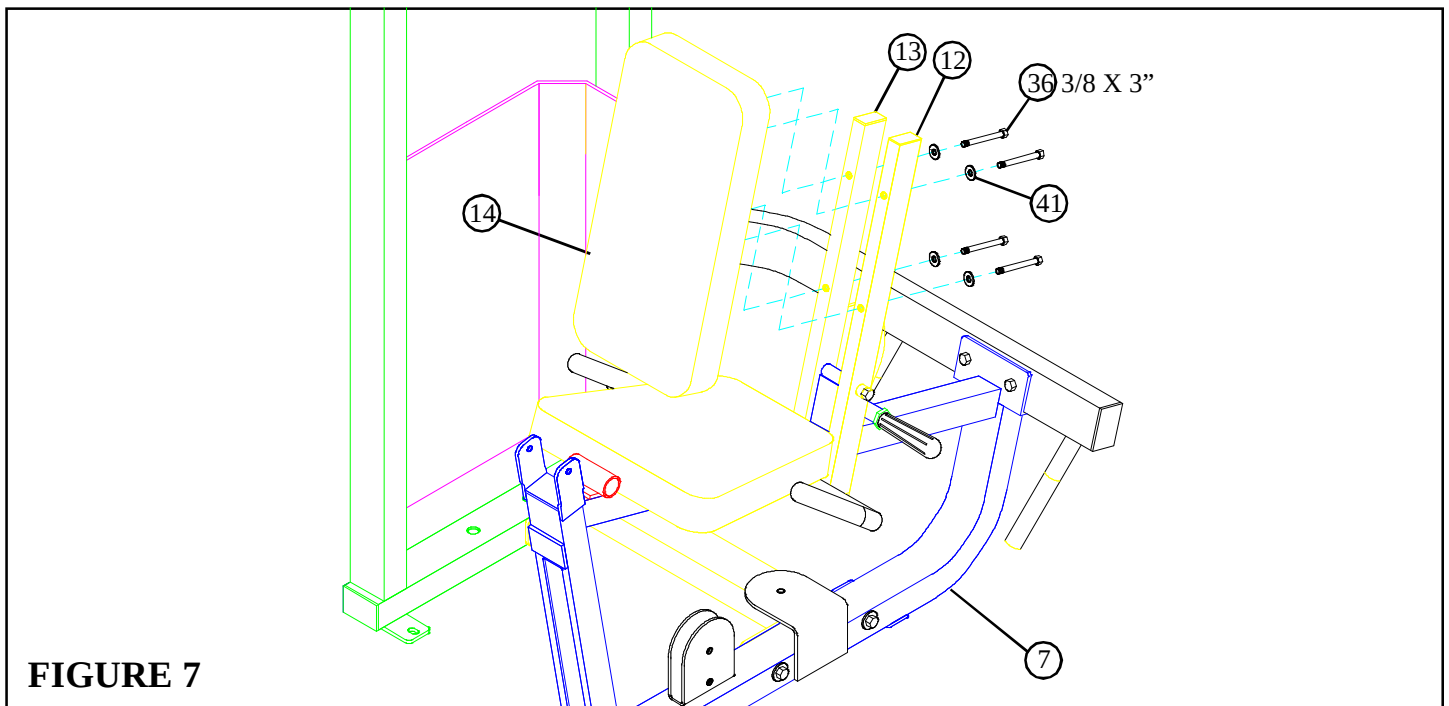

FIGURE 7
- **SECURELY** assemble BACK PAD (14) to the RIGHT & LEFT PAD SUPPORTS (12) (13) using four 3/8 X 3" BOLTS (36) and four 3/8" WASHERS (41) as shown in FIGURE 7.